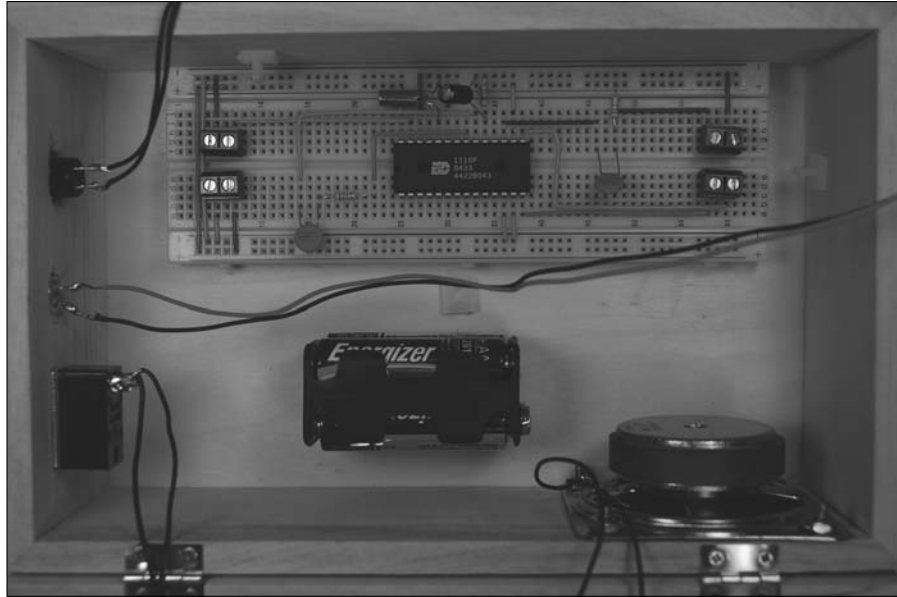

Figure 14-13:
- 12. Attach Velcro to the battery pack, breadboard, and box. Attach the battery pack and breadboard to the box, as shown in Figure 14-13.**